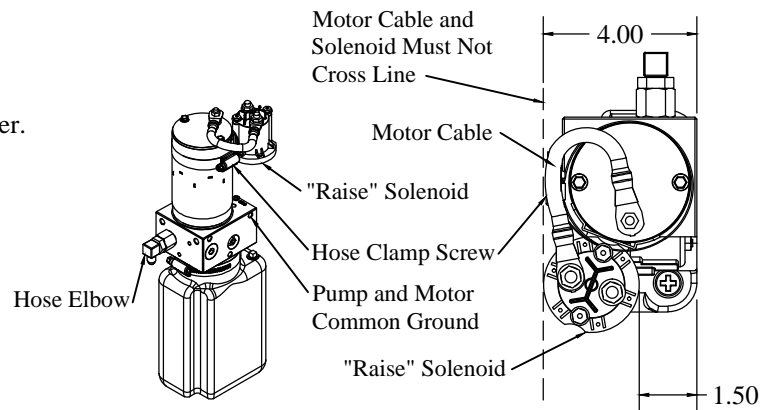

Figure 7: "Raise" solenoid position for 19" tall pump box.
7. **Install** the "raise" solenoid on the motor. Position the solenoid and hose clamp as shown for your pump box design (Figure 7 or 8).
1. **Position** the "raise" solenoid, hose clamp, and motor cable in the position indicated for your pump box design (Figure 7 or 8).
3. **Install** the common ground bolt holding the 18GA black wire and the 4GA ground cable to the power unit housing (Figure 7 or 8).